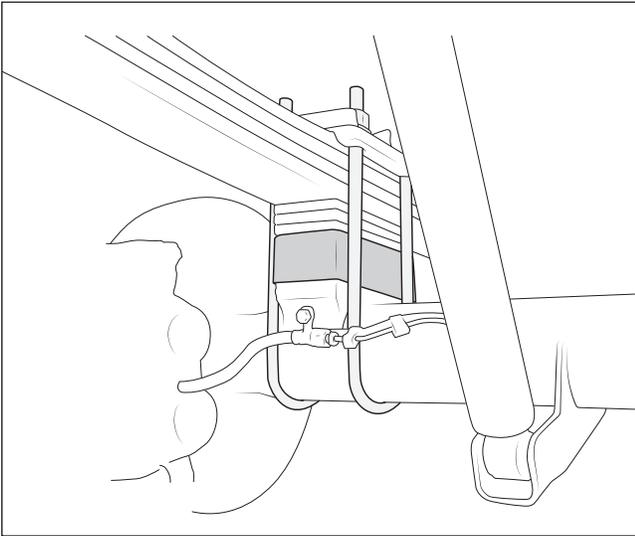

Figure 2
6. Lower the axle enough to insert the lift block (fig. 2).
7. Install the new U-bolts and snug (fig. 2).